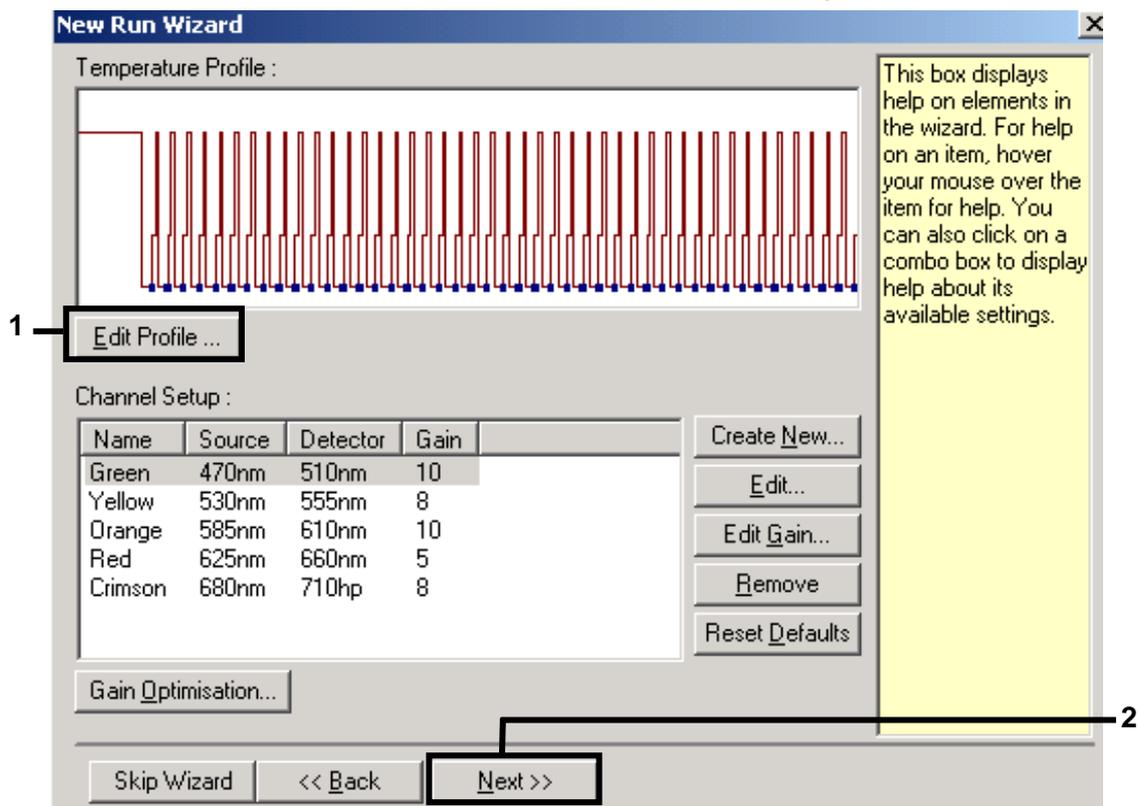

Figure 3. Editing the profile. Note that, on the Rotor-Gene 3000, the software will define the fluorescence dyes as "FAM/Sybr" and "JOE".
- Click the "Edit Profile" button in the next "New Run Wizard" dialog box (Figure 3), and program the temperature profile as shown in Figures 3–5).